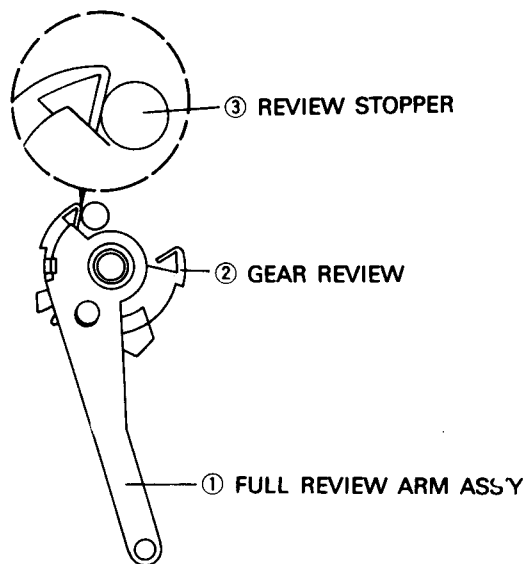

Fig. 51 Reassembly and Timing of Full Review Arm Ass'y
1. Assemble the full review arm ass'y ① so that the gear review ② is touching the review stopper ③ as shown in Fig. 51.